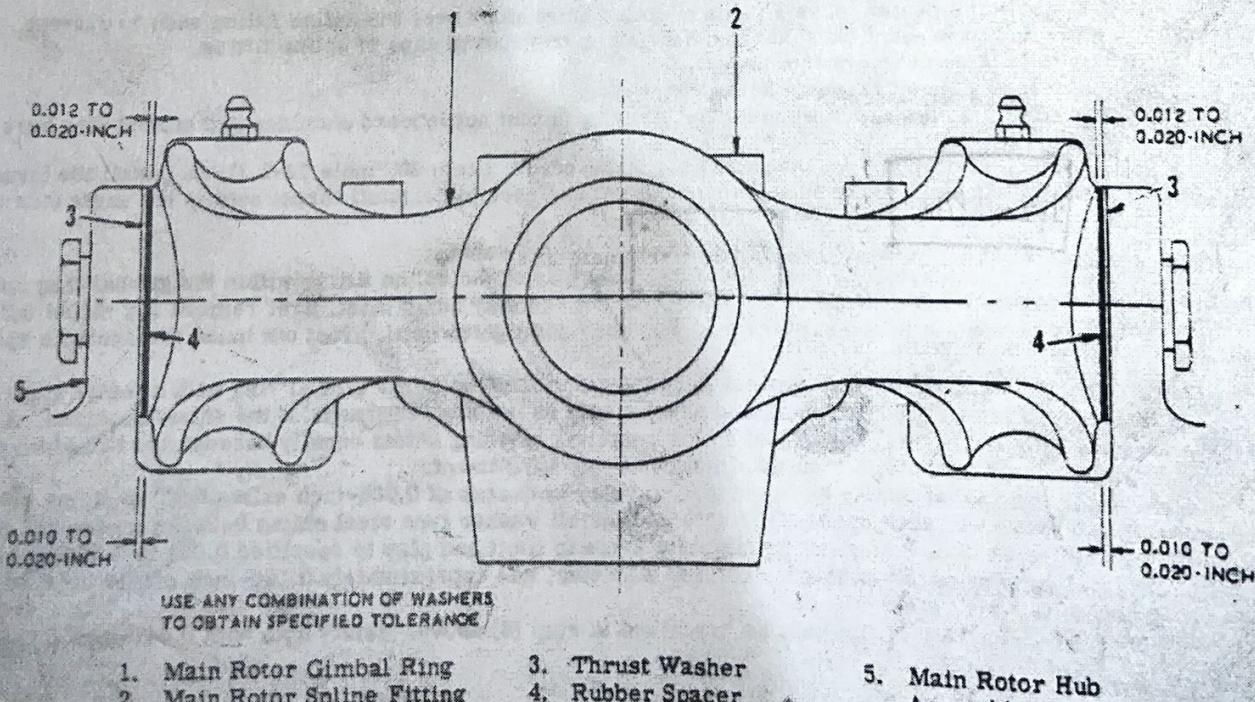

Figure 51-1-3. Main Rotor Head Gimbal Ring Clearance
- (1) Install the two grease seals in the recesses in the bearing bore inner ends. The seal lips should face toward the bearings.
- (2) Install the hinge line parts in the following order:
- (3) Insert the special flanged spacers through the gimbal ring bore inboard end, with spacer flanged end facing inboard.
- (4) Place gimbal ring assembly in position.
- (5) Install the outer thrust washers in thickness combinations to maintain the gimbal ring-to-hub ear clearance specified in figure 51-1-3. Divide the outer thrust washers as nearly equally as possible between the two gimbal ring-to-hub ear locations.
CAUTION: THE CLEARANCES SPECIFIED IN FIGURE 51-1-3 MUST EXIST SIMULTANEOUSLY AT BOTH SIDES OF THE GIMBAL RING AND THE MAIN ROTOR HUB EARS. USE TWO FEELER GAGES TO MEASURE THE CLEARANCE. UNDER NO CIRCUMSTANCES SHALL THE CLEARANCE BE SET TO LESS THAN THE MINIMUM SPECIFIED.